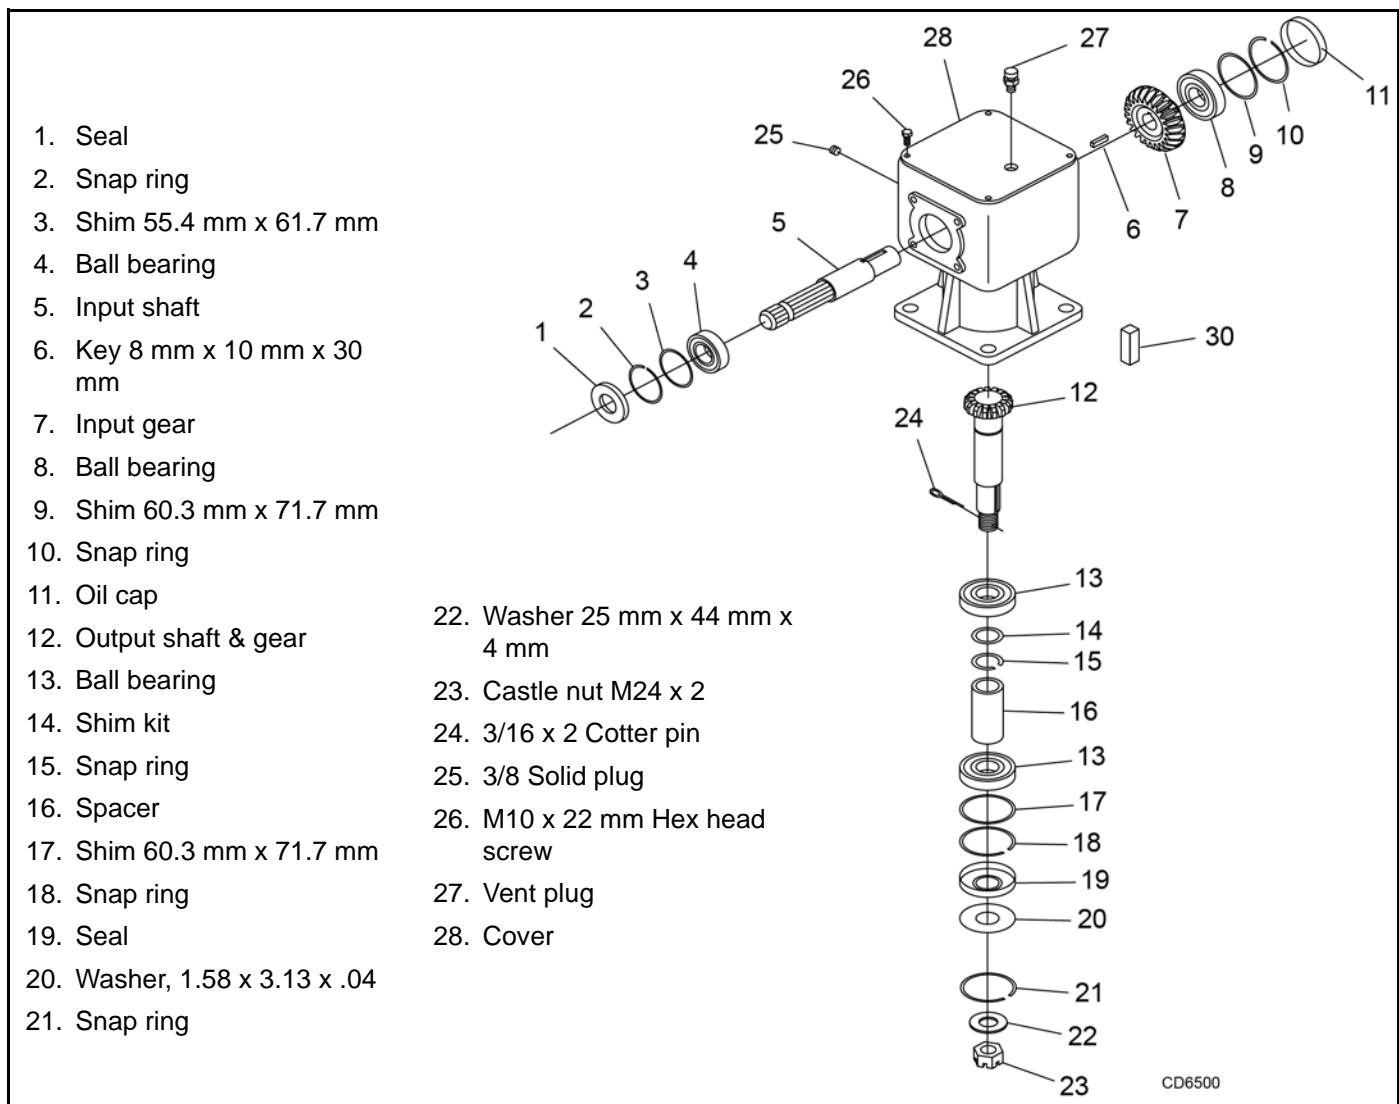

Figure 24. Gearbox Assembly
## Horizontal Shaft Seal Replacement (Figure 24)
2. Remove vent plug (27), Figure 24, and siphon gear lube from housing through this opening.
3. If the leak occurred at either end of horizontal shaft, remove oil cap (11) and/or oil seal (1). Replace with new one (see Seal Replacement, page 26).
## Disassemble Gearbox (Figure 24)
1. Remove top cover (28), Figure 24, from housing. Turn gearbox upside down and pour out remaining gear oil from gearbox.
2. Remove oil cap (11) (to be replaced).
3. Remove snap ring (10) and shim (9) from input shaft (5).
4. Support gearbox in hand press and push on input shaft (5) to remove bearing (8).
5. Remove gear (7) from inside housing.
6. Remove oil seal (1) from front of housing (to be replaced).
7. Remove snap ring (2) and shim (3) from front of housing.
8. Remove input bearing (4) by using a punch and hammer from outside of housing.
10. The castle nut (23) and cotter pin (24) are already removed with the drive sheave. Remove the snap ring (18), washer (20), and seal (19).
11. Remove output shaft (12) and bearings by using a punch and hammer and tap on top to drive down.
## Vertical Shaft Seal Replacement (Figure 24)
## Reassemble Gearbox (Figure 24)